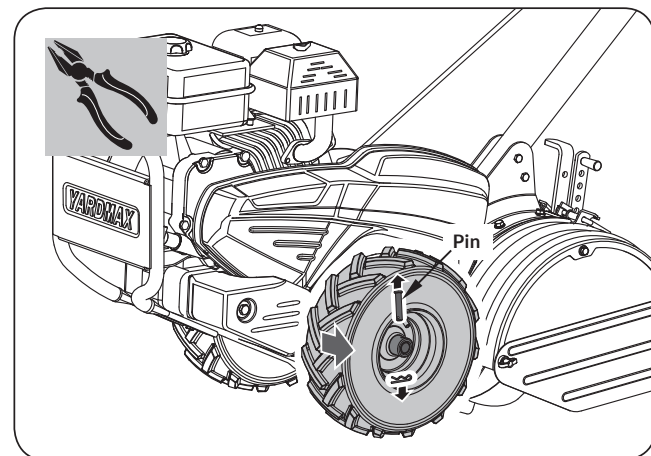

Figure 12a
1. Securely prop the machine up so that the wheel on the opposite side of the engine is 1 inch off the work surface. Remove the shear pin and wheel from belt guard side of the machine, opposite side of the engine. (see **Figure 12a**)